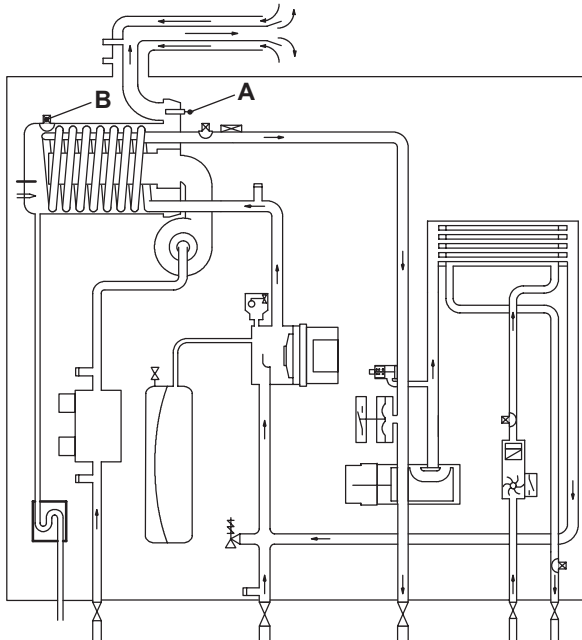
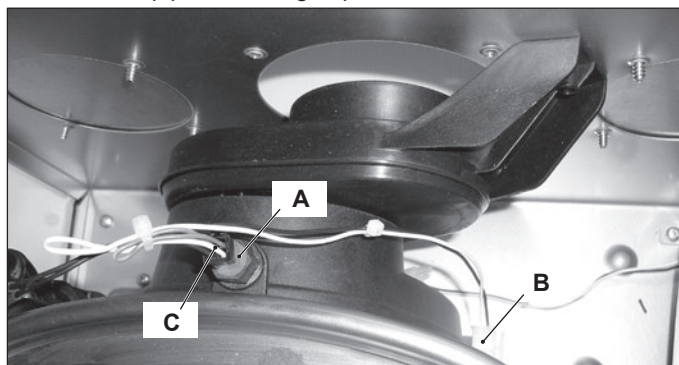

Figure 20.1
Figure 20.2
The Flue temperature probe NTC - Flue thermal fuse "A" in Figure 20.1 and Figure 20.2 senses the temperature of the combustion products that flow through the condensing heat exchanger.
A Flue temperature probe NTC - Flue thermal fuse "A" in Figure 20.1 and Figure 20.2 is also connected in series with the Flue temperature probe NTC and acts as a safety device in extreme case of incorrect operation of the Flue temperature control system.
A Safety thermal fuse "B" in Figure 20.1 and Figure 20.2 is also connected in series with the Flue temperature probe NTC and acts as a safety device in extreme case of incorrect operation of the Flue temperature control system.
- 2 Disconnect the connector "C" from the Flue temperature probe NTC by pressing the plastic hook placed on the side of the connector (Figure 20.2).
- 3 Unscrew and remove the Flue temperature probe NTC "A" (Figure 20.2) from the condensing heat exchanger.